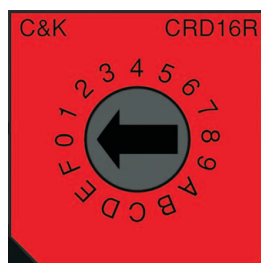

Figure 1.2 Detailed view of the 16-position digital rotary switch
- 2) The 2808 receiver has a built-in RF attenuator adjustable over a 30 dB range in 2 dB steps. The user can adjust a 16-position rotary switch to set the 2808's RF output level to +28 dBmV over the full rated optical input range. The side of the 2808 receiver has a 16-position digital rotary switch that controls the built-in RF attenuator (see item F in the Figure 1.2, page 3.) This amount of RF attenuation can be selected using a 1/8" tip straight screwdriver. Figure 1.2, page 3 shows an enlarged view of the 16-position digital rotary switch.
The rotary switch shown in Figure 1.2 selects one of 16 possible settings for the built-in RF attenuator. Each click of the rotary switch changes the internal attenuation by 2 dB. The rotary switch will rotate through 360°, with no stops. A setting of "0" corresponds to the minimum internal RF attenuation. This